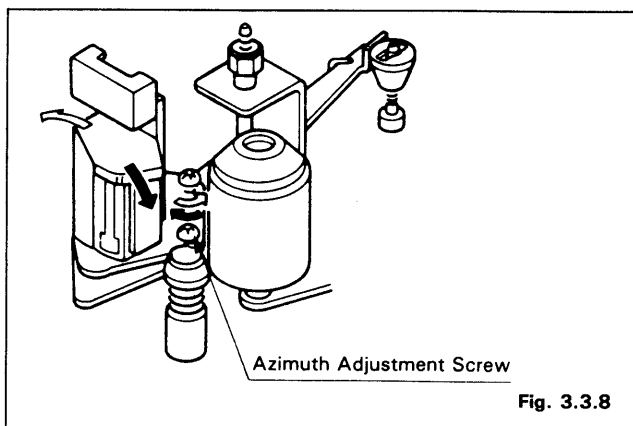

Fig. 3.3.8
- Adjust the azimuth adjustment screw so that the AC voltmeter's reading is brought to its maximum level. (Refer to Fig. 3.3.8)
- After confirming on the oscilloscope that a 6 kHz sine wave is being output, adjust the azimuth adjustment screw so that the AC voltmeter's reading or oscilloscope waveform is brought to its maximum level. (Refer to Fig. 3.3.8)